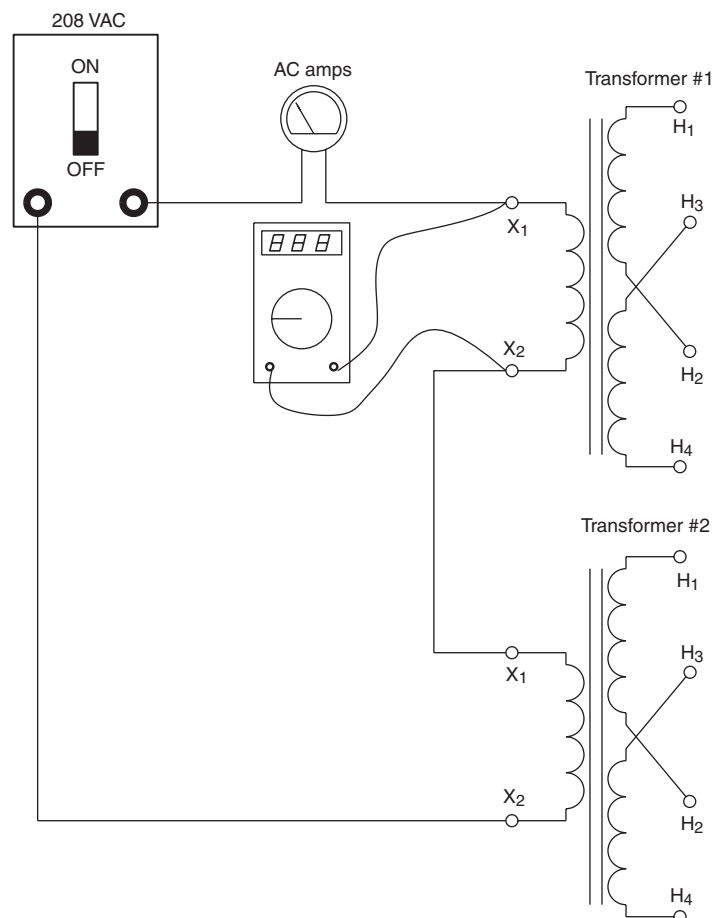

Figure 10-6 Measuring the voltage.
35. With an AC voltmeter, measure the amount of voltage across the X_1 and X_2 winding of transformer #1 (Figure 10-6).